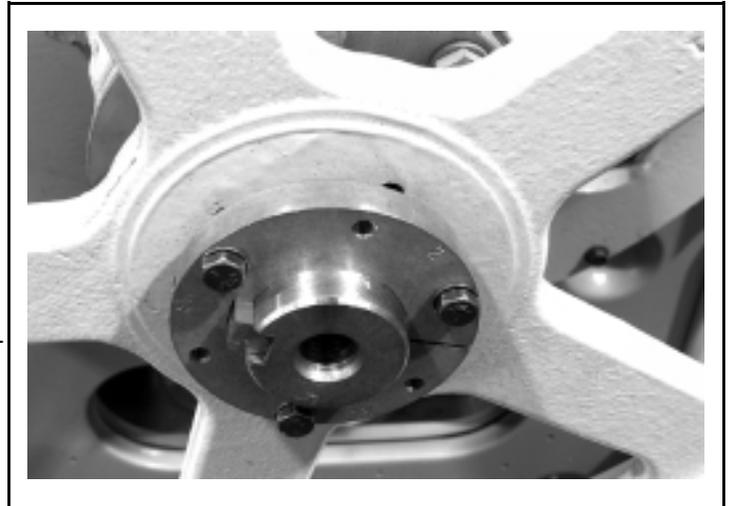

FIGURE 7 (MSSM0712AE)
1. Loosen and remove all three bushing bolts. Thread two bolts into the push-off holes in the bushing (FIGURE 7) and alternately tighten them until the bushing and pulley separate and can be removed from the shaft.